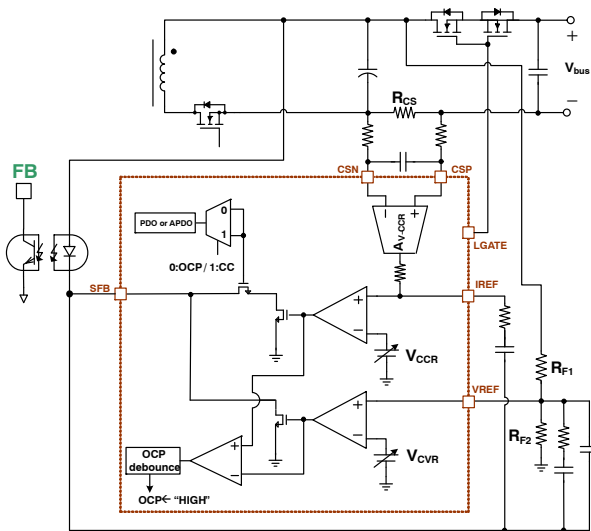
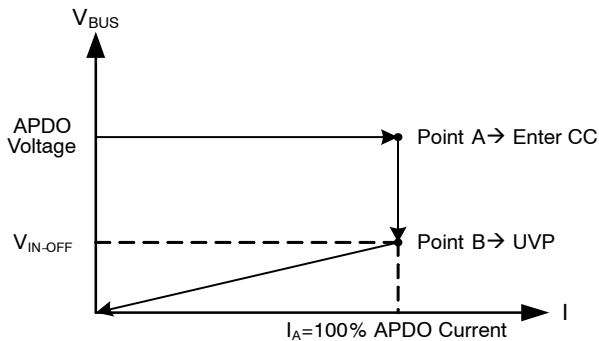

Figure 29. Voltage and Current Sensing Circuits
Figure 30. APDO CC Operation
In order to regulate adaptive output voltages, the constant voltage control (CV) is implemented. The output voltage is sensed through an external resistor divider. The sensed output voltage is connected to the VREF pin, and it is input the non-inverting input terminal of the internal operational amplifier. The inverting input terminal is connected to the internal voltage reference (VCVR) which can be adjusted according to the requested output voltage. The amplifier and an internal switch operate as a shunt regulator, and the output of the shunt regulator is connected to the external opto-coupler via SFB pin. To compensate output voltage regulation, typically, two capacitors and one resistor are connected between SFB and VREF pins as Figure 29. The output voltage can be derived as calculated by the Equation 1, and the ratio of the resistor divider is 10. The reference (VCVR) for the output voltage is generated by a 10-bit DAC. The minimum resolution is 20 mV to meet PD3.0 compliance spec.
Constant current (CC) control is enabled during USB PD contracts. When CC mode is enabled, the supply will foldback the output voltage as the load increases in order to maintain a fixed output current as shown in Figure 30. Output current is sensed via a current-sense resistor RCS, which is connected between the CSP and CSN pins. The sensed signal is internally amplified, and this amplified voltage is connected to the non-inverting input of the internal operational amplifier. Similar to the constant voltage amplifier circuit, it also plays a role as a shunt regulator to regulate the constant output current. In order to compensate output current regulation, one capacitor and one resistor are connected between the IREF and SFB pins as shown in Figure 29. The constant output current can be calculated using Equation 2. 5mΩ is typically used for the sense resistor.